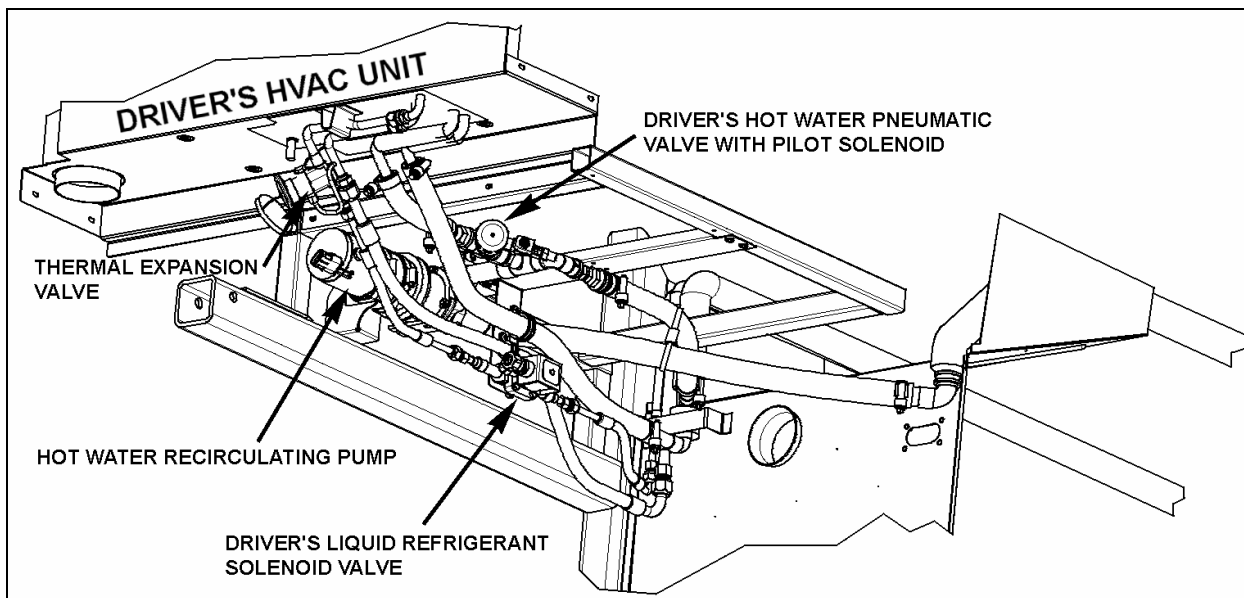

FIGURE 62: CEILING OF THE SPARE WHEEL COMPARTMENT
- b) Locate the normally open hot water pneumatic valve on the ceiling of the spare wheel compartment (Fig. 62), move the pilot-solenoid valve red tab to close the valve.
Refer to figure 62 for hot water pneumatic valve location and to paragraph 11.1.5 for more information.
Refer to figure 62 for pump location and to paragraph 11.1.7 for more information.